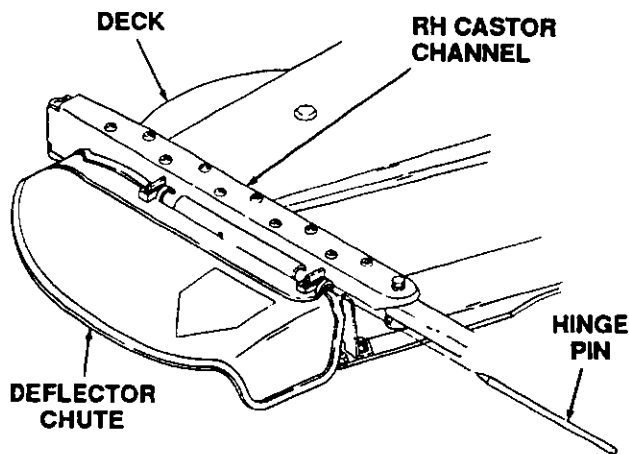

Figure 7
1. Refer to Figure 7 and mount chute deflector on the right hand castor channel hinge. Insert tapered end of hinge pin (as shown) making sure it goes through the torsion spring and bottoms out in opposite end of the chute deflector. Cut, and remove tie-wrap from torsion spring.